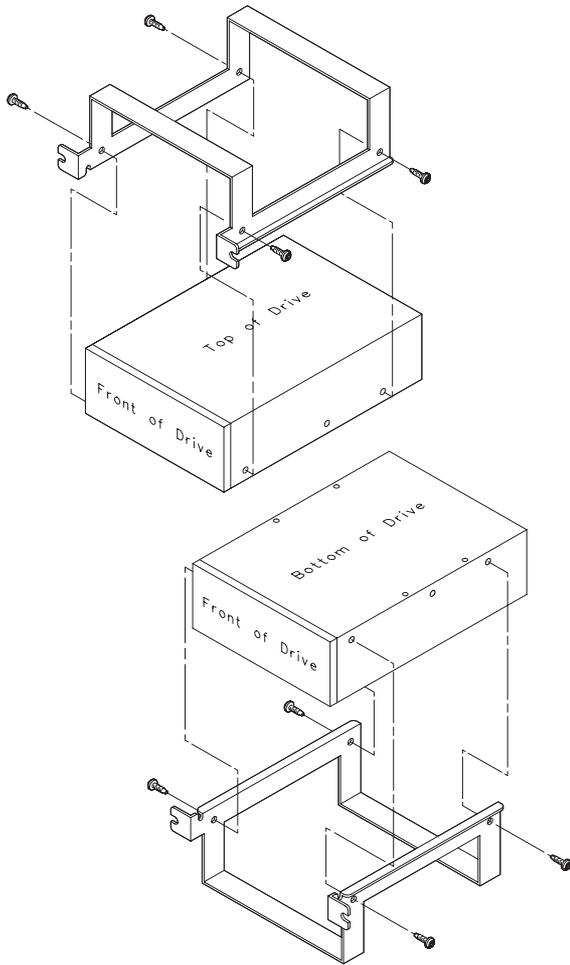

Figure 5-50. Replacing Hard Drive Mounting Bracket and Drive Orientation
1. If the drive that's being installed doesn't already have drive brackets attached, do this now, using Figure 5-50 as a guide.